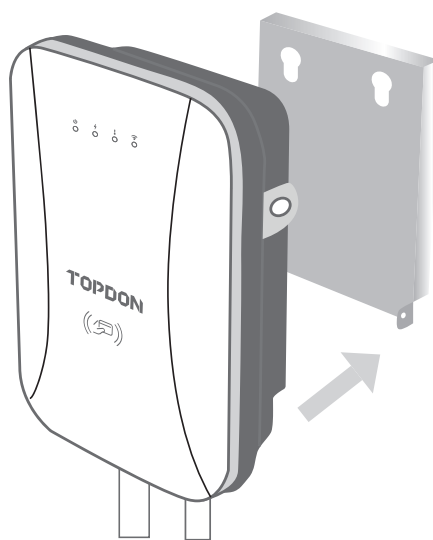

Fig. 5.4.7
6. Attach the charger to the bracket.(See Fig. 5.4.7)